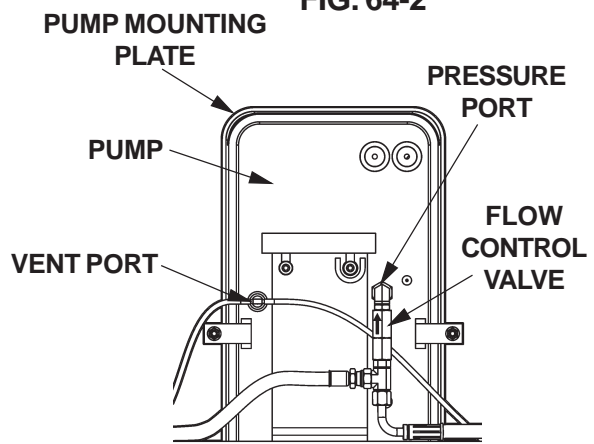

FIG. 64-3
7. Check if Flow Control Valve (**FIG. 64-3**) is pointing to the direction of restricted fluid flow (pointing up and back toward pump). If required, remove Flow Control Valve and install it correctly (**FIG. 64-3**).